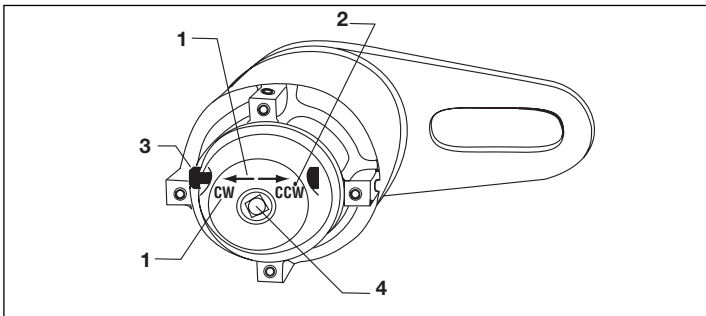

Fig. 3 – Input End Detail (shown set for CW rotation)
WARNING: Prevent accidental torque release; set the neutral positioning set screw (Fig. 3, Item 2) flush with the top of the housing whenever the torque multiplier is operated MANUALLY. The selector pawl (Fig. 3, Item 3) must also operate freely in the CW and CCW positions. Personal injury could result if not set properly.
1. When using a POWER driven input, lock selector pawl in neutral position using the neutral positioning set screw (Fig. 3 Item 2).
Selector pawl (Fig. 3, Item 3) must be set in neutral position and the neutral position set screw (Fig. 3, Item 3) must be tightened to lock the selector pawl for power drive unit operation. It controls the torque multiplier's rotational direction for manually-applied input. (Not available on E290+, E291, E391 models). Do not use impact wrench for power driving, damage to multiplier power train will result.
2. Set desired rotation direction by pushing the selector pawl (Fig. 3, Item 3) in the direction indicated by the letters and directional arrows stamped on the input end case (Fig. 3, Item 1). EXAMPLE: "CCW" for counter-clockwise rotation, push pawl to end of travel in the direction shown by the "CCW" arrow. For clockwise rotation, push pawl in the opposite "CW" direction. (Not available on E290+, E291, E391 models).
Anti-backlash models: using a torque wrench, apply enough input torque to release internal anti-backlash device; maintain torque input and push selector pawl (Fig. 3, Item 3) into opposite position (EXAMPLE: Pawl set in "CW" position requires reset to "CCW" position). Slowly relax input torque. (Not available on E290+, E291, or E391 models).
Use an approved **non-impact** power drive with models: (E391, E392, E393, E492, E493, E494 or E495 only). **Lock selector pawl in Neutral** position by centering between the "CW" and "CCW" positions and tightening the set-screw (fig 3, Item 2).